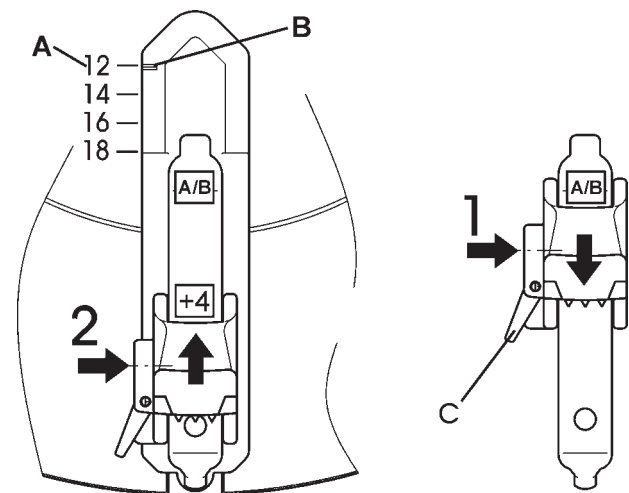

Fig. 3.1-1
**MAKE SURE ALL FOUR CLAMPING JAWS ARE POSITIONED IDENTICALLY (FIG. 3.1-1, ITEMS 1 OR 2). OTHERWISE THE RIM MIGHT NOT BE CLAMPED PROPERLY, COME OFF THE CHUCK AND HURT THE OPERATOR!**
Rim diameters are shown in inches on the turntable (A, Fig. 3.1-1). The setting diameter (scale on the jaw -B- corresponding to the scale on the turntable -A-) depends on the position of the jaws (1, or 2, Fig. 3.1-1).
With the jaws in position 1 (1, Fig. 3.1-1), the operative diameter is exactly as indicated by the scale (A-B) on the turntable.
With the jaws in position 2 (2, Fig. 3.1-1), add 4" to the value represented by the scales to obtain the effective setting diameter.